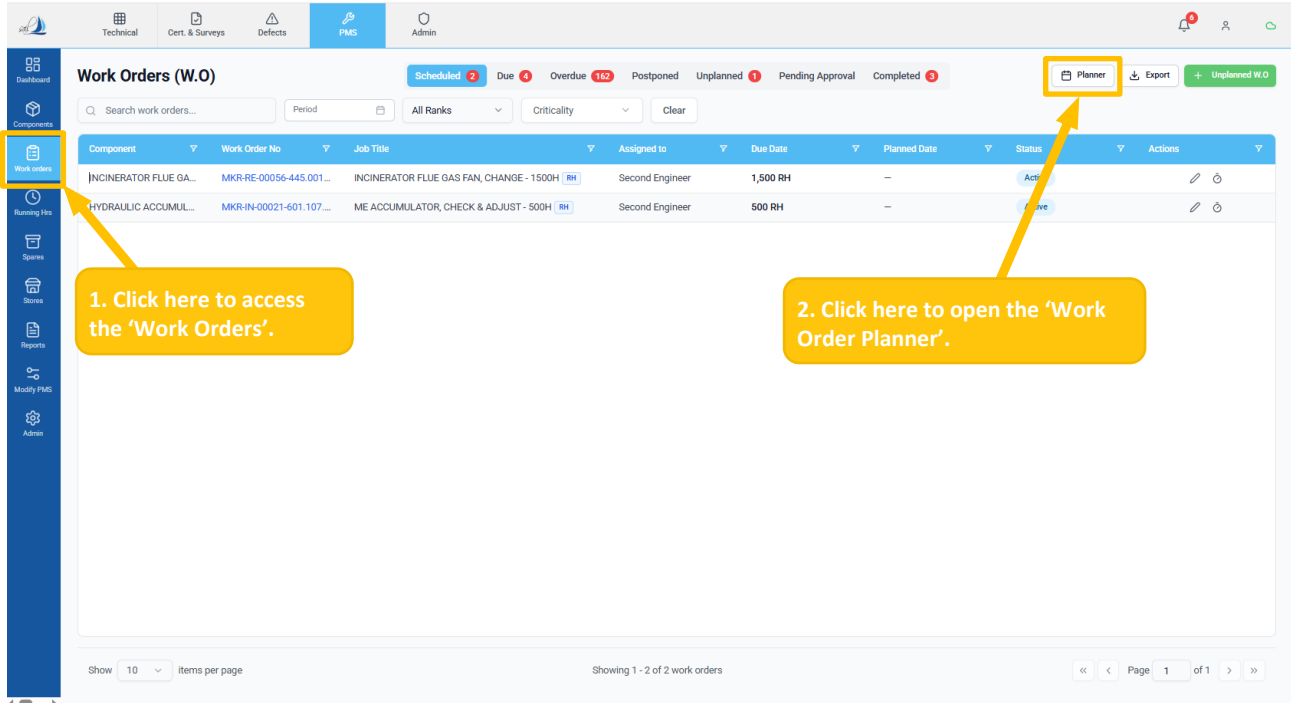

Figure 33
- Go to the 'Work Orders' sub-sub module. (Ref Figure 33)
- Click the 'Planner' button to re-plan the Work Order. (Ref Figure 33)